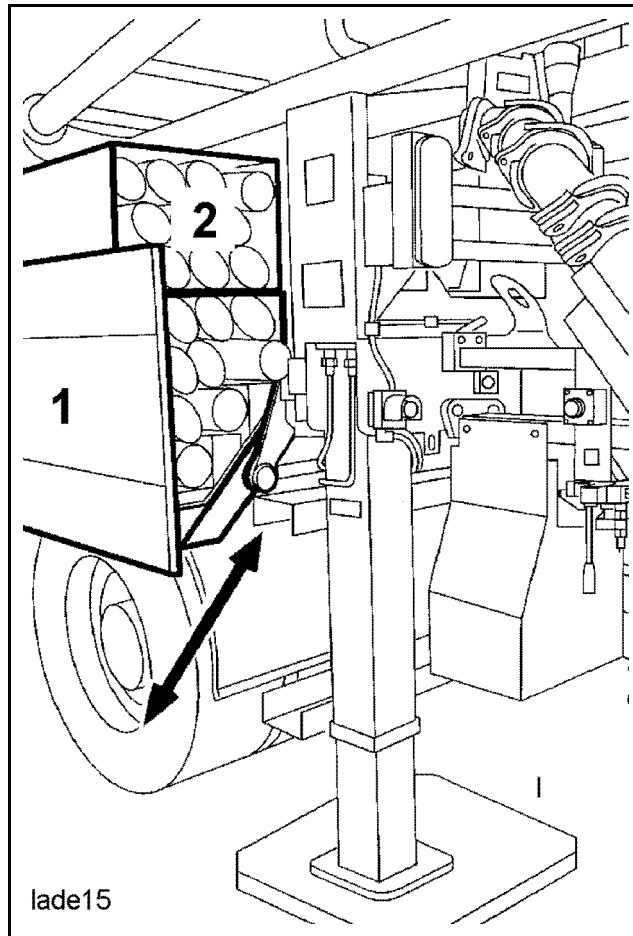

Fig. 498
The stowing box (1) (**Fig. 498**) is fitted with sleeves to receive 3-m-long pumping pipes or hoses.
As an additional accessory, the stowing box can be closed at the top with an enclosure or supplemented with an additional box (2) (**Fig. 498**).